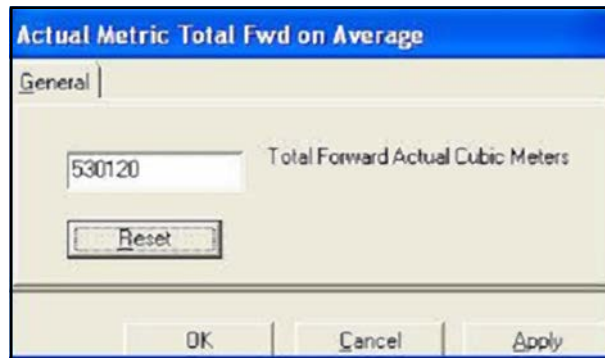

Figure 67: Actual Metric Total Fwd on Average
3. Click on **Properties**. The current total will be displayed (see *Figure 67* below).